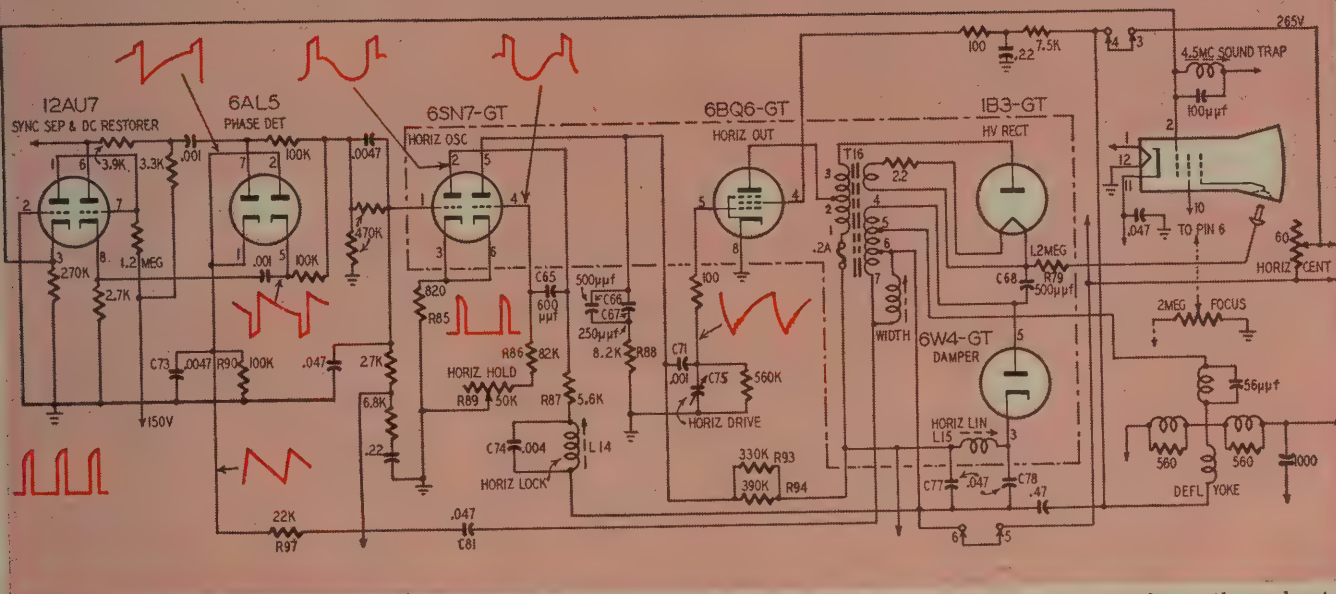

Fig. 1—Schematic diagram of the horizontal section of Sentinel model 438 XD chassis. Waveforms are shown throughout.
When there has been poor linearity from the beginning, that could not be corrected by the vertical linearity control, a small change in value of peaking resistor (R6, Figs. 1, 2) may correct it. Increasing the value of this resistor (25 to 50%), causes stretching at the top of the picture; decreasing the value causes compression.
Other possible defects include: change of resistor values in the charge circuit, or change in the value of charging capacitor; defective vertical output transformer; open capacitor in the decoupling circuit of the output stage (C8, Fig. 1); change of resistor value in either decoupling circuit (R9 or R13, Fig. 1); defective yoke (ferrite core cracked.)
If the fault has been present from the beginning, check the manufacturer's field modifications for the particular model. Some common methods for increasing height include: Boosting B plus with new (or a more efficient type of) low-voltage rectifier tube; using a 6Y6-G instead of a 6K6-GT as the vertical output tube in converted 630 type sets where the filament supply permits this (the 6Y6-G filament takes 1.25 ampere, about three times the current of the 6K6-GT); lowering the value of the fixed resistor in the charge path (R7, Figs. 1, 2) to two-thirds or one-half the original value; changing the two-winding vertical output transformer connections to make it function as an autotransformer (Fig. 5).
**8. Keystoning.** (Picture becomes narrow at the right or the left side.) Keystoning is caused by a short or partial short in one section of the vertical deflection coil (yoke) or a defective damper resistor (R14, R15, Fig. 1).
Starting with the horizontal phase detector circuit, let us examine the high points of the horizontal section (Fig. 1). Two voltages are fed into the 6AL5 balanced phase detector. They are the incoming signals' horizontal sync pulses and the horizontal reference feedback voltage. These two voltages are compared in phase, and the d.c. voltage developed is applied to the control grid, pin 1 of the 6SN7-GT horizontal oscillator. The d.c. voltage varies the plate resistance of the tube, keeping the oscillator from going out of synchroni-